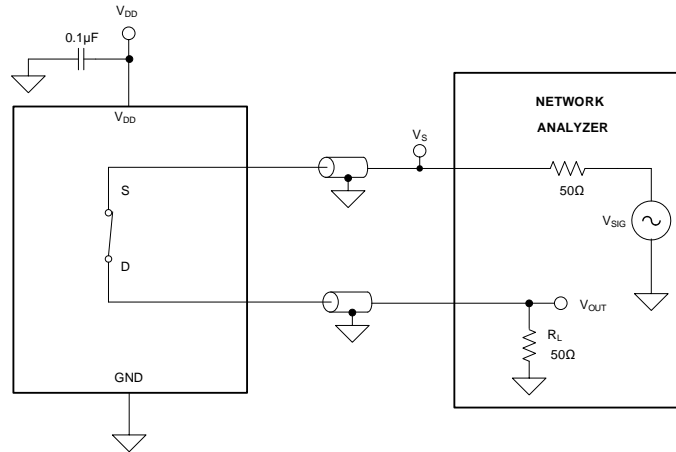

图 22. Bandwidth measurement setup
Bandwidth is defined as the range of frequencies that are attenuated by less than 3 dB when the input is applied to the source pin (S) of an on-channel, and the output is measured at the drain pin (D) of the device. The characteristic impedance,  $Z_0$ , for the measurement is 50  $\Omega$ . 图 22 shows the setup used to measure bandwidth.